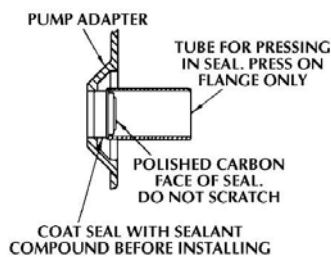

Figure 5
1. Coat seal cup with Sealastic #732 RTV sealant before pressing seal into seal cavity. Press into place with a tube or pipe of correct diameter to press on seal cup rim only, as shown in Figure 5.